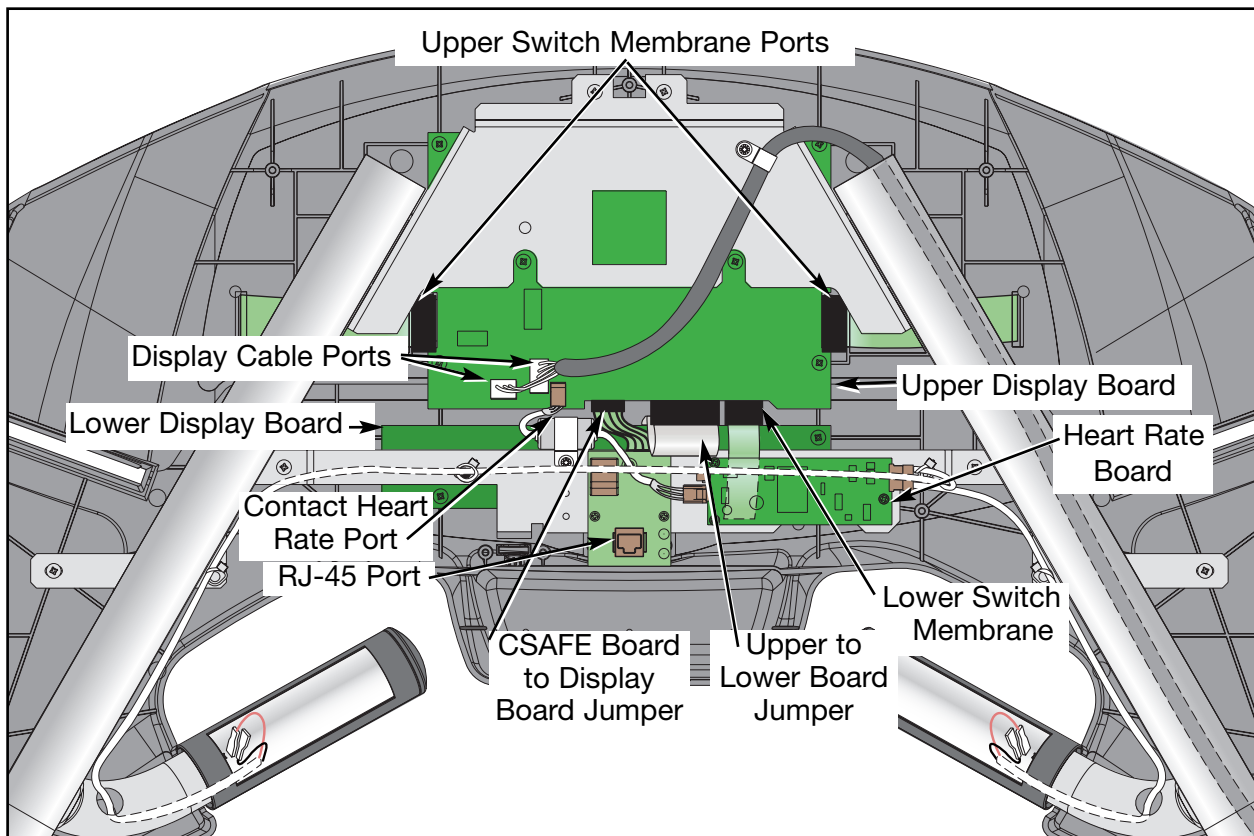

Figure 24
A. Disconnect these cables from the display board: the display cable (2 connectors), the two upper switch membranes, the lower switch membrane, the contact heart rate cable, the CSAFE board to display board jumper and the upper to lower board jumper. See Figure 24.
- A.** Connect these cables into the display board: the display cable (2 connectors), the two upper switch membranes, the lower switch membrane, the contact heart rate cable, the CSAFE board to display board jumper and the upper to lower board jumper. See Figure 24.